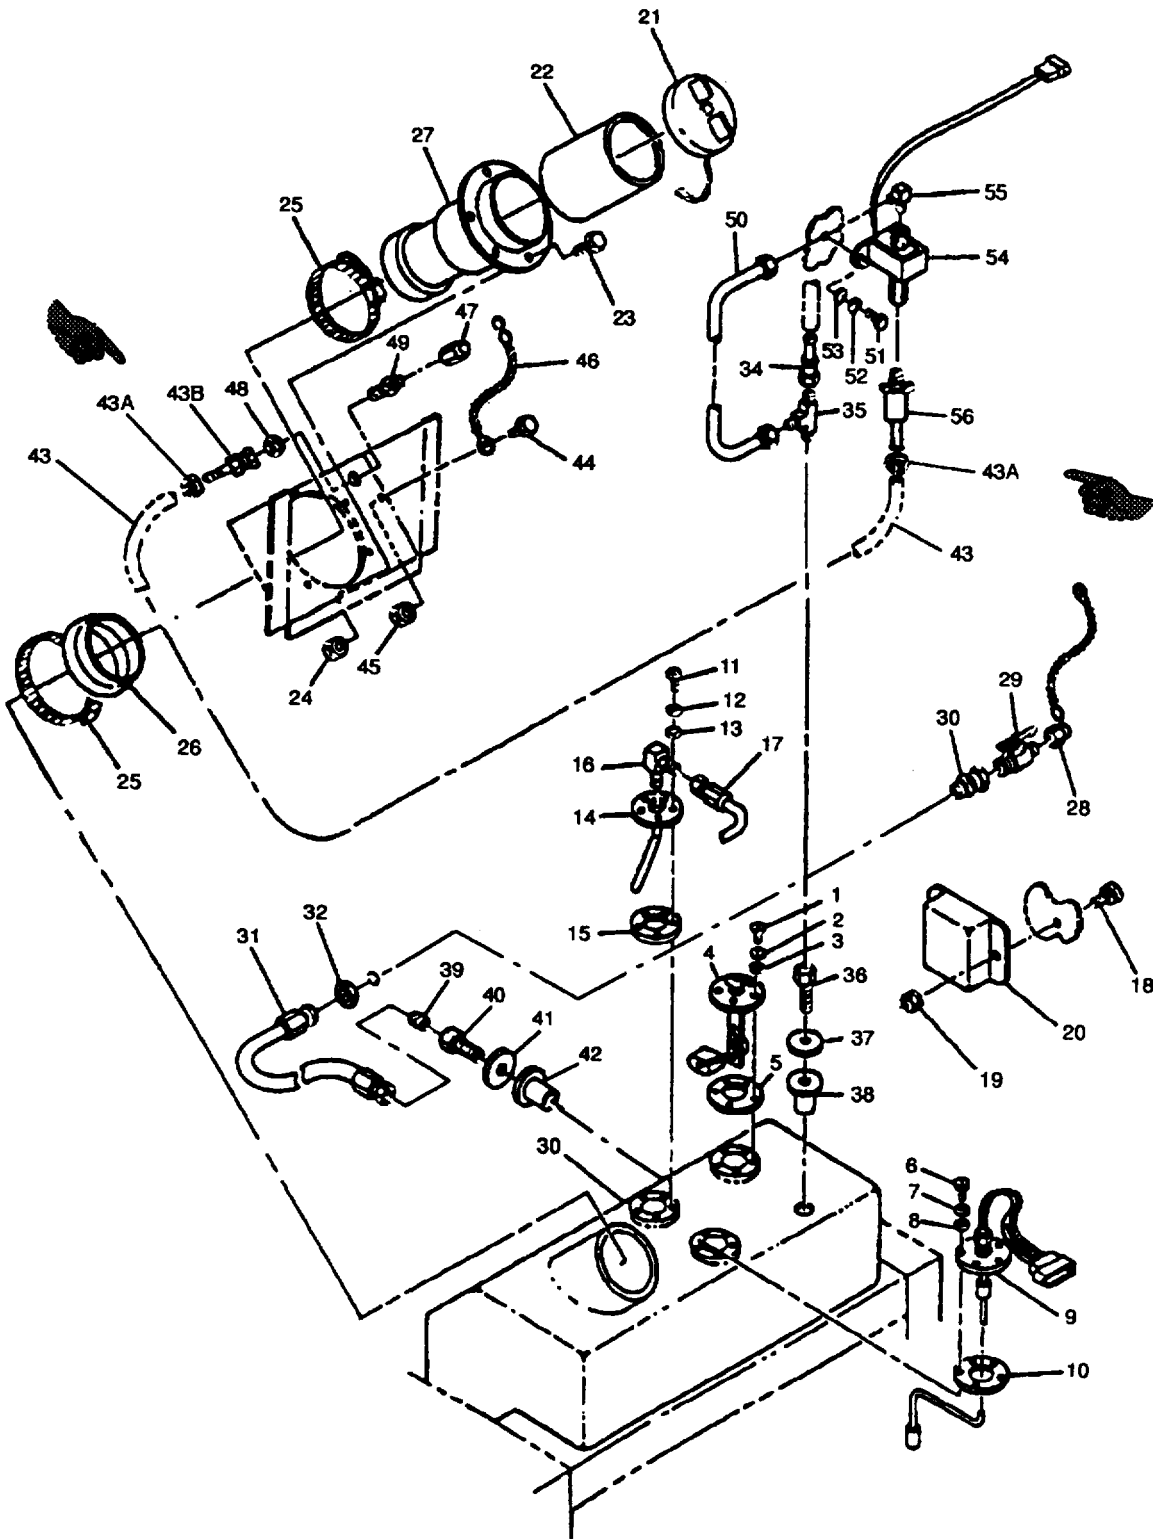

Figure 2-21. Fuel Tank, Switches, and Auxiliary Fuel Pump
- b. Remove cover in fuel tank opening; clean, make flat, and smooth mating surfaces to gasket (10, Figure 2-21), ensuring no foreign material enters fuel tank. Apply sealant (Item 19, Appendix C) to both sides of gasket (10).
- c. Position gasket (10) and low fuel level/auxiliary fuel pump float switch (9) onto fuel tank. Ensure float switch (9) is in same position as removed.
- d. Install screws (6), lockwashers (7), and washers (8).
- d. Disconnect fuel line (17, Figure 2-21) from fitting (16) and cap line.
- e. Remove screws (11), lockwashers (12), washers (13), fuel pickup (14), and gasket (15) from fuel tank. Cover fuel tank opening.
- f. Remove fitting (16) from fuel pickup (14).
- a. Remove cover in fuel tank opening; clean, make flat, and smooth mating surfaces to gasket (10, Figure 2-21), ensuring no foreign material enters fuel tank. Apply sealant (Item 19, Appendix C) to both sides of gasket (10).
- b. Install gasket (15) and fuel pickup (14) in fuel tank with screws (11), lockwashers (12), and washers (13).
- c. Install fitting (16) in fuel pickup (14).
- d. Connect fuel line (17) to fitting (16).
- d. Tag and disconnect fuel float module (20, Figure 2-21) electrical connector (J12) from fuel float switch electrical connector (P12).
- d. Tag and disconnect electrical connector from fuel float module (20, Figure 2-21).
- e. Remove bolts (18), nuts (19), and fuel float module (20) from generator set.
- a. Install fuel float module (20, Figure 2-21) in generator set with bolts (18) and nuts (19).
- c. Identify fuel line to be removed as shown in Figure 2-21 or Figure 2-22.
- d. Remove filler cap (21, Figure 2-21). Rotate tube (22) one quarter turn counterclockwise, and remove from filler neck (27).
- e. Remove bolts (23) and nuts (24).
- f. Remove clamps (25), rubber collar (26), and filler neck (27) from fuel tank opening.
- c. Inspect rubber collar (26, Figure 2-21) for cracks, wear, or other damage.
- d. Inspect filler neck (27), clamps (25), tube (22), and cap (21) for corrosion, cracks, or other damage.
- a. Position filler neck (27, Figure 2-21) onto fuel tank opening.
- b. Install rubber collar (26) and clamps (25) onto filler neck (27) and fuel tank opening.
- c. Install bolts (23) and nuts (24).
- d. Install filler cap (21) and tube (22).
- c. Remove cap (28, Figure 2-21), open fuel drain valve (29) and drain all fuel into suitable container.
- d. Remove fuel drain valve (29) from fitting (30) at left side skid.
- e. Remove fuel drain line (31) from adapter (40) and fitting (30).
- f. Remove nut (32) and fitting (30) from left side skid.
- a. Install fitting (30, Figure 2-21) in left side skid with nut (32).
- b. Install fuel drain line (31) to fitting (30) and adapter (39).